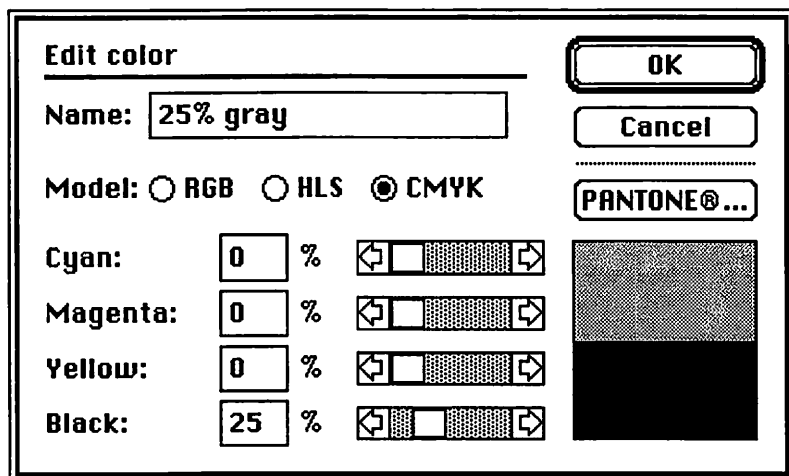

FIGURE 1-14 To create gray type in PageMaker, first define a shade of gray in the *Edit Color* dialog box.
3. Enter zero percent in the three color text boxes (Figure 1-14) and the desired percentage of gray in the **Black** text box. (You can also click on the *Pantone* option and select a gray from the *Pantone* library.)